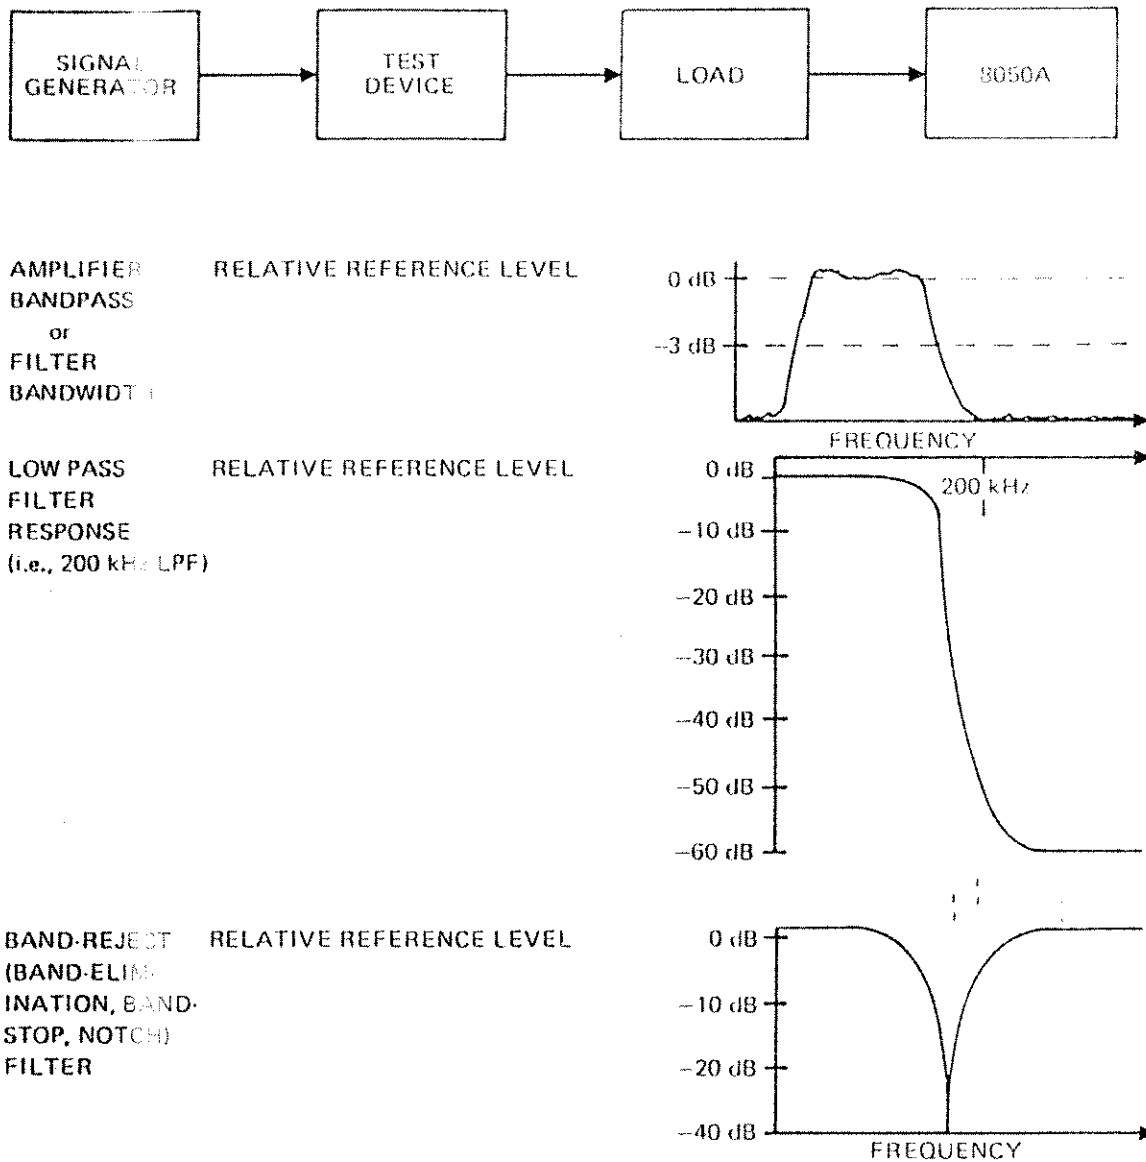

Figure 2-9. Frequency Sensitive Devices
1. Connect the amplifier (test device) as shown in Figure 2-9.
6. Set the RELATIVE switch to the ON position. You have now established the highest point in the bandpass as a 0 dB relative reference level. (See the top waveform in Figure 2-9.)
2-80. The response of other frequency sensitive device can be found using similar techniques. Figure 2-9 has waveforms for some types of frequency sensitive devices